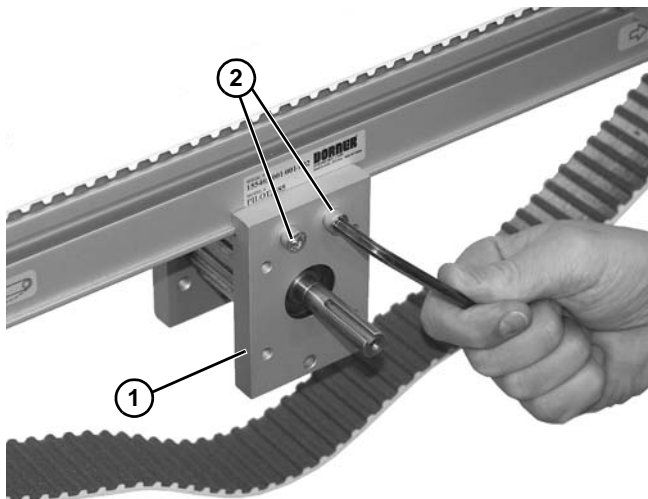

Figure 73
8. Secure center spindle assembly (**Figure 73, item 1**) with two M6x25 socket head screws (**Figure 73, item 2**) on each side of mounting block. Do not tighten.
11. Tighten socket head screws (**Figure 73, item 2**) to 60 in-lb (7 Nm).